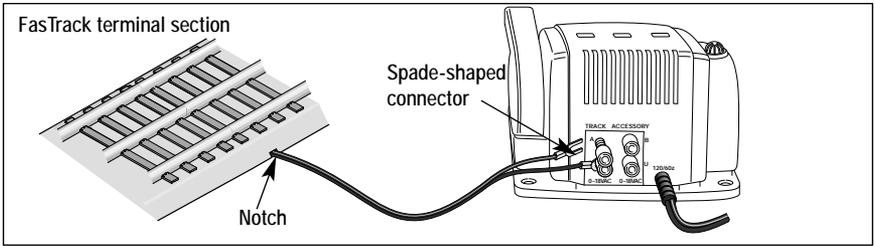

Figure 3. Controller connections
- 1. Feed the wires through the notch in the FasTrack terminal section.** Refer to Figure 3 on page 7.